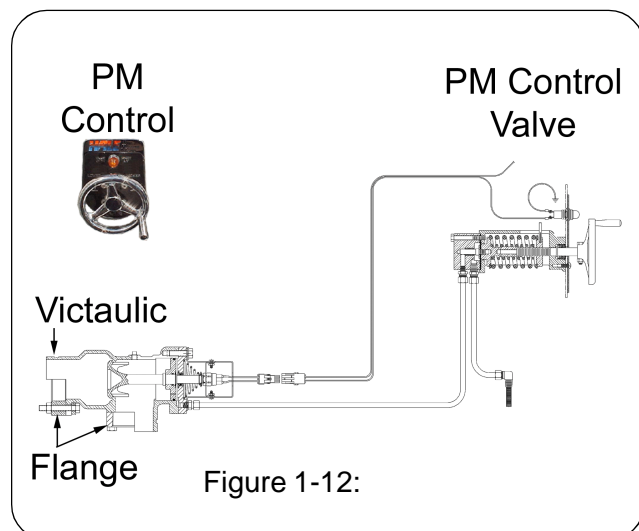

Figure 1-12:
The P relief valve system consists of a panel mounted control valve (PM) and, depending on the pressure rating of the pump, a P30, or P35 relief valve mounted in the discharge piping and plumbed back to the pump suction. Valve connections are either flanged or Victaulic™. Both are shown in figure 1-12.